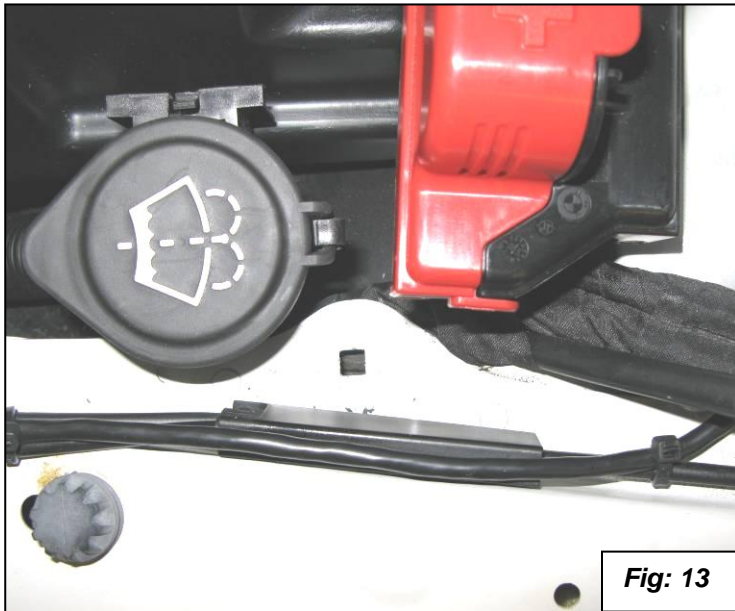

Fig: 13
18. Install the body nut into the square hole as shown in figure 13 and 14.